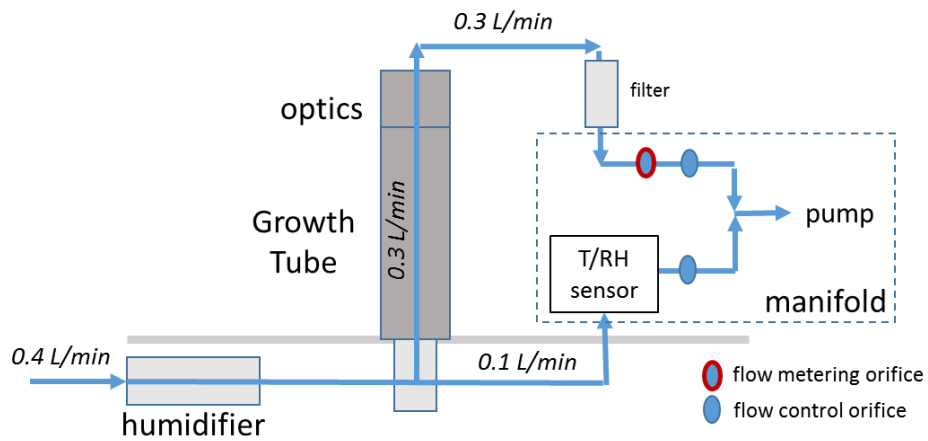

Figure 2: Flow Diagram for MAGIC™ CPC
(6) *Flow System:* As shown in Figure 2, air enters the humidifier at approximately 0.4L/min. At the inlet block, a 0.3 L/min aerosol flow is directed through the growth tube and optics, and a 0.1 L/min transport flow is sent to the temperature-humidity sensor. Aerosol flow exiting the optics passes through a coalescing filter and a pair of orifices to the pump. The aerosol flow is inferred from the pressure drop across the upstream (metering) orifice. The transport flow is directed inside the case through a clip-lok connector, to the temperature-relative humidity sensor, through an orifice, and to the pump. The T/RH sensor, orifices and pump are contained within the manifold. The pump is operated at constant power, and the flow split between the aerosol and transport flows is determined passively.